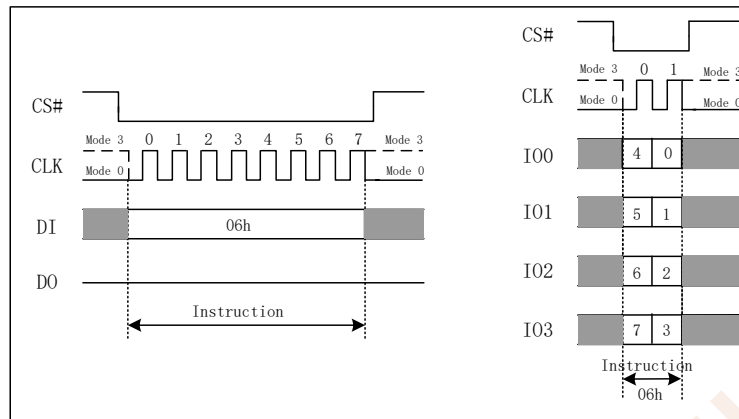

Figure 7.2 Write Enable Instruction (SPI or QPI Mode)
The Write Enable instruction (Figure 7.2) sets the Write Enable Latch (WEL) bit in the Status Register to a 1. The WEL bit must be set prior to every Page Program, Sector Erase, Block Erase, Chip Erase and Write Status Register instruction. The Write Enable instruction is entered by driving CS# low, shifting the instruction code “06h” into the Data Input (DI) pin on the rising edge of CLK, and